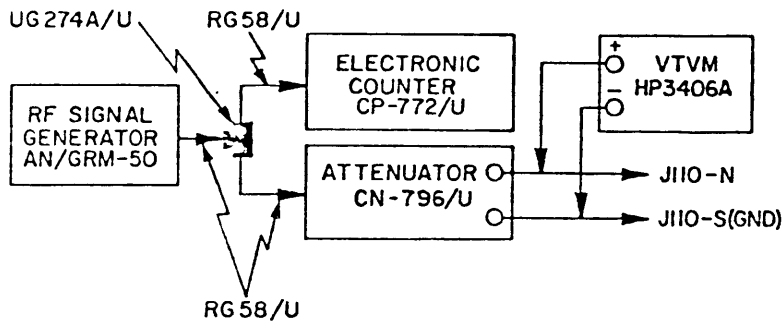

Figure 5-9. Step generators B and C, test setup.
- (j) Connect a signal generator to J110-N. as shown in the setup of figure 5-9. Set attenuation to zero unless otherwise directed.